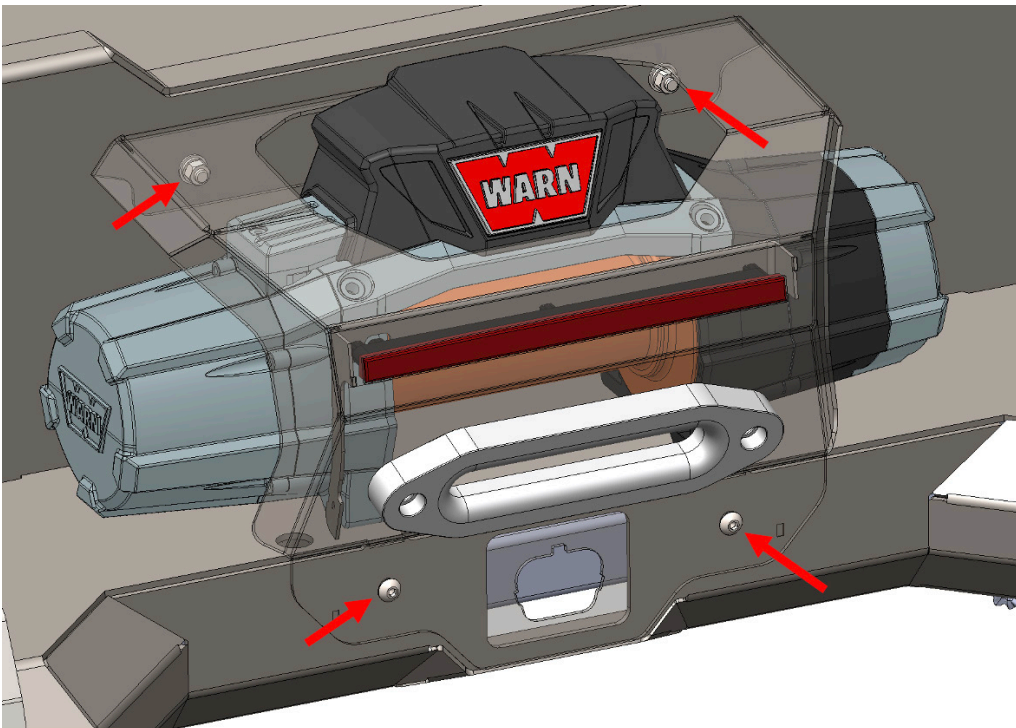

Figure 20
21. Use the provided two (2) button head 3/8" bolts along with two (2) hex head bolts flat/lock washers and nuts to attach the winch cover to the bed. Figure 20.